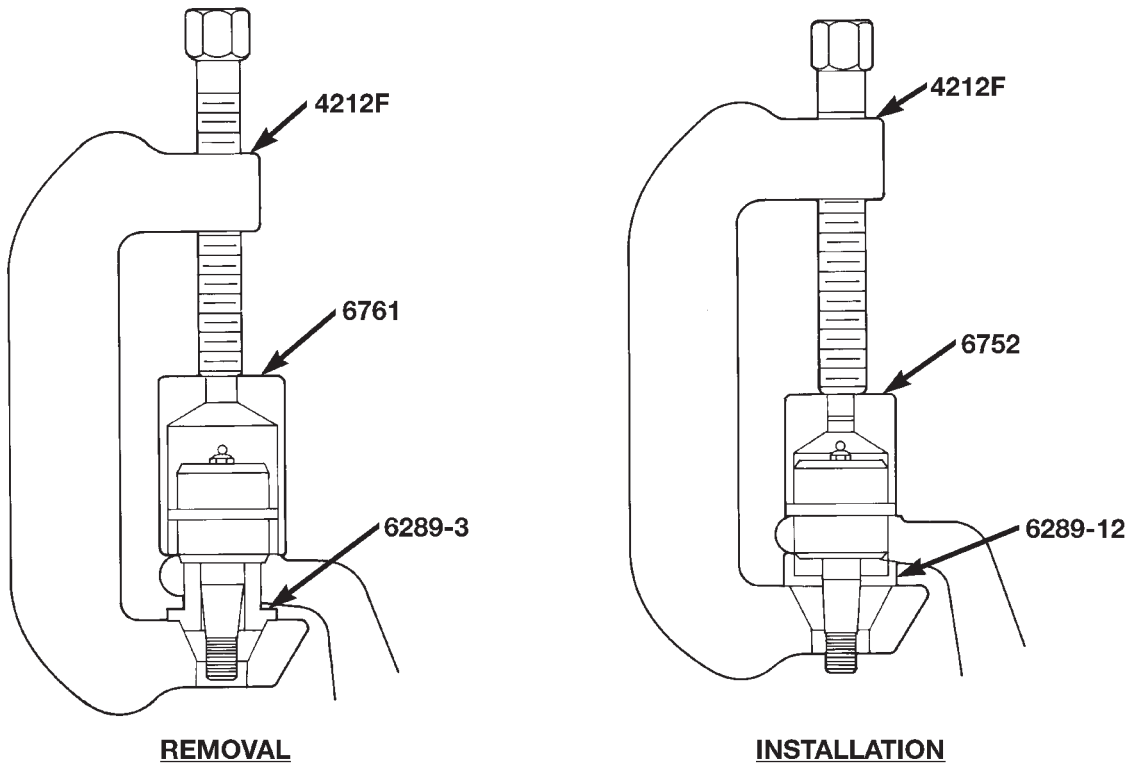

Fig. 22 Upper Ball Stud Remove/Install
- (1) Position tools as shown to remove and install ball stud (Fig. 22).